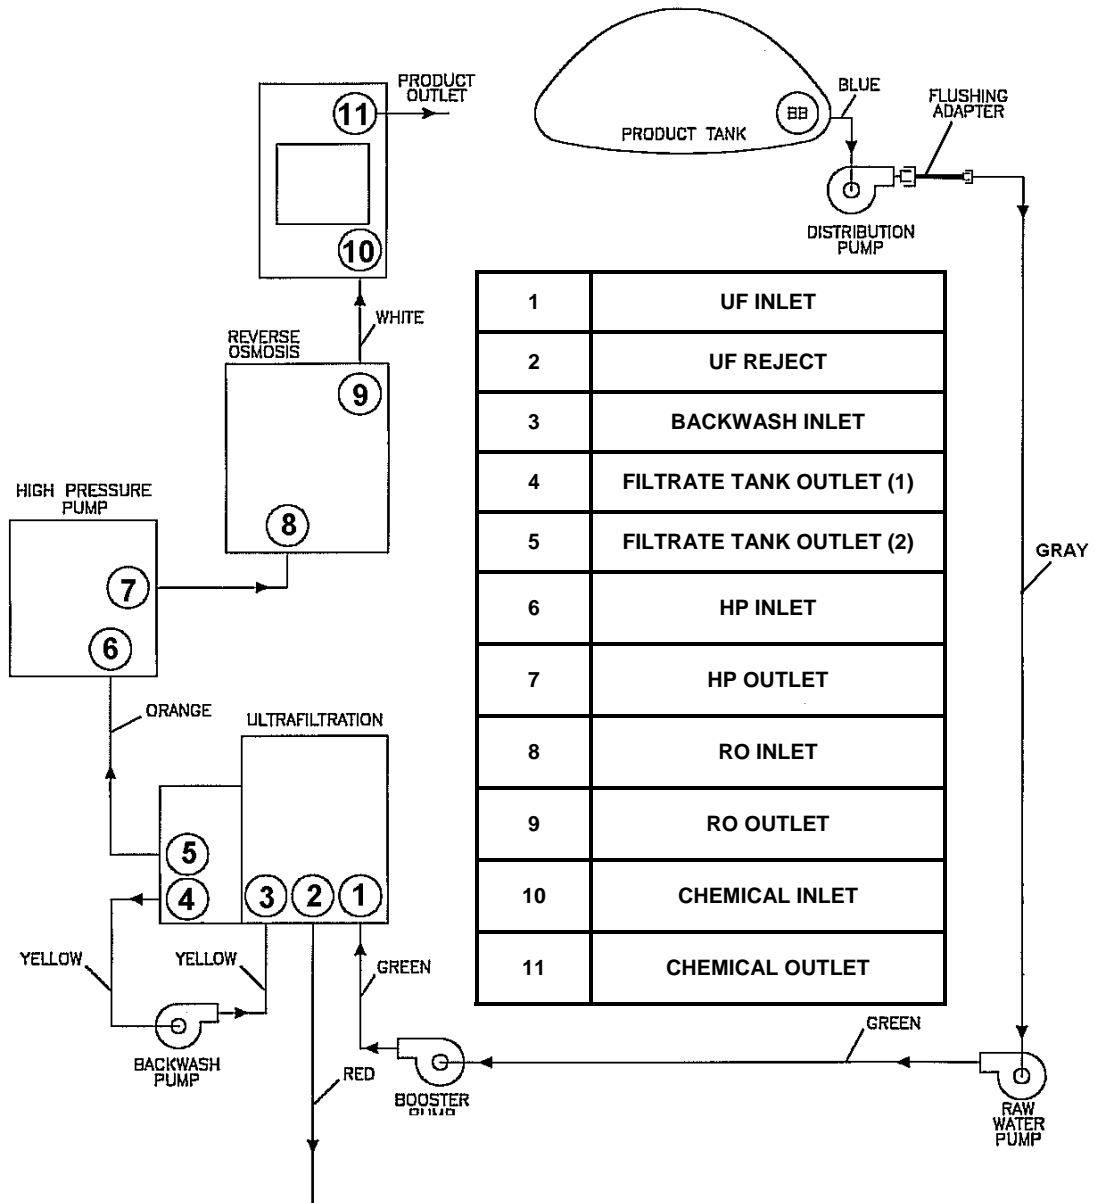

Figure 7. Product Flush Piping Layout.
21. Connect settling tank feed fabric hose (green) from the discharge of the raw water pump to the inlet of the booster pump. The setup should now resemble Figure 7.